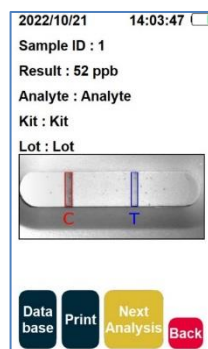

Fig. 8
- When the reading is complete: The result page opens automatically (Fig. 8).